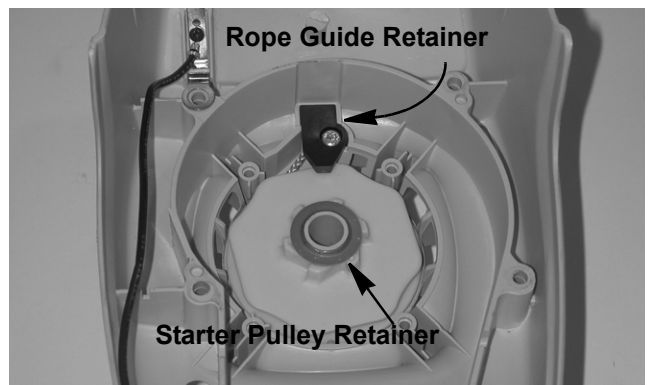

FIGURE 6
12. Using a T-20 Torx driver, loosen the rope guide retainer screw far enough to allow the rope to pass between the pulley and the rope guide retainer. See Figure 6.